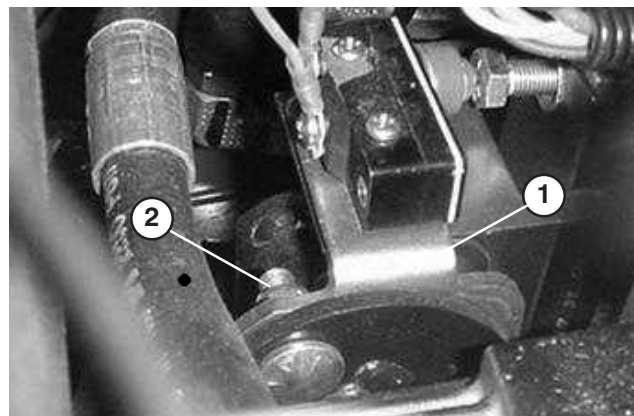

Figure 45
4. Loosen two locknut securing pump plate so plate is free to move (Fig. 45).
5. Start engine and rotate pump plate (Fig. 45) in either direction until wheel ceases rotation.
6. Stop engine and tighten locknuts to secure pump plate (Fig. 45).